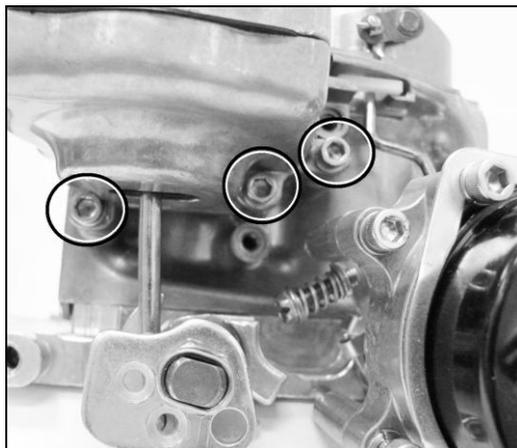

Figure 12
11. It is now necessary to re-install the vacuum pod if it was removed in step one (Fig. 12). Simply reverse the removal process. Don't forget the sealing o-ring.